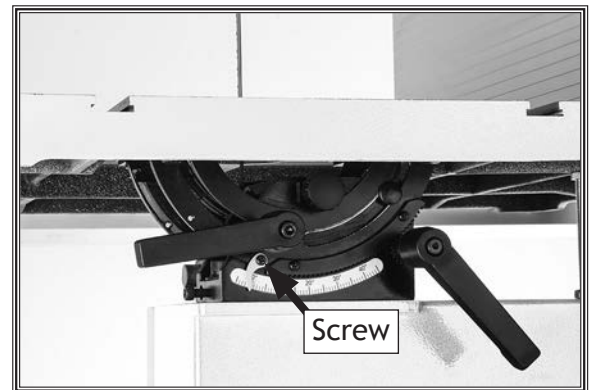

Figure 110. Location of screw that secures table tilt pointer.
4. Loosen Phillips head screw that secures table tilt pointer (see **Figure 110**), adjust pointer to "0" on scale, then retighten screw.